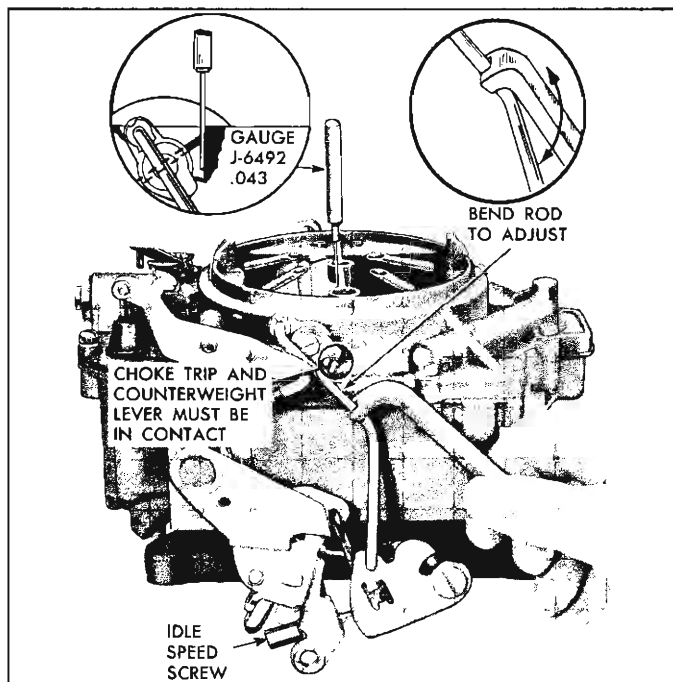

Fig. 22—Checking and Adjusting Fast Idle Cam and Choke Relationship
- **Fast Idle Cam and Choke Relationship**—Turn idle speed screw in until it just contacts the second step of the fast idle cam (fig. 22). Check to see that choke trip lever is in contact with choke counterweight lever. Holding idle speed screw on the second step and against shoulder of high step, insert .043" gauge J-6492 between top edge of choke valve and dividing wall in air horn to check for proper clearance at this point. If necessary to adjust, bend choke rod at lower angle.